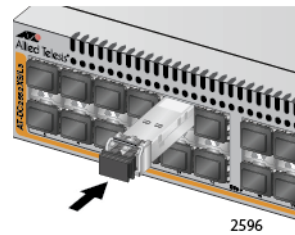

Figure 32. Installing an SFP+ Transceiver
5. Slide the module into the slot until it snaps into place as shown in Figure 32.